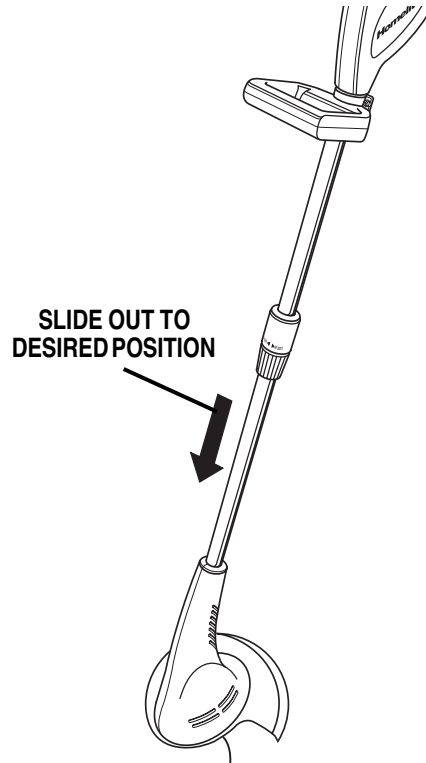

Fig. 4
- Lower shaft should now be free to slide down from inside the upper shaft. Make sure the shaft is pulled out to the desired position. *See Figure 4.*